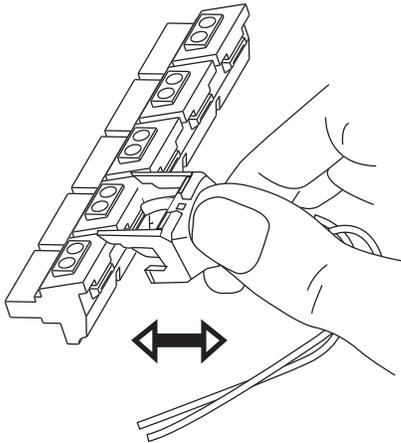

Figure 13
**11.2** Position the test clip squarely over the connector (Figure 13), having the long location legs straddle the front of the toolless IDC block. Push down firmly to engage the test clip, ensuring that the white tip and orange ring holes align with the test clip.